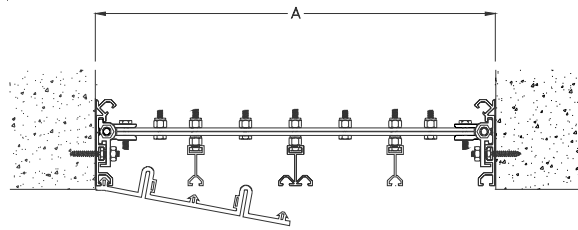
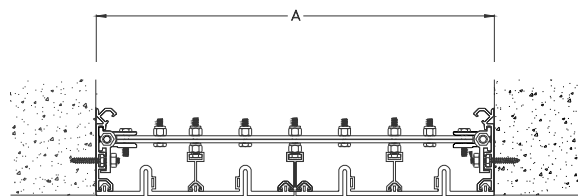

Figure 19
Figure 20
STEP 25. Put the face seal into its installed position, and beginning 1/4" from the bottom of the joint, insert the face seal's arrows into the corresponding track in the base members and subchannel (see Figure 19 and Figure 20). Use a wallpaper roller (by others, 1/2" width) to roll the arrows into the tracks continuously along the length of the face seal. Lubricating the face seal's arrows with soapy water or liquid soap can make installation of the face seal easier. Do not use oils or oil based lubricants on the face seal arrows.